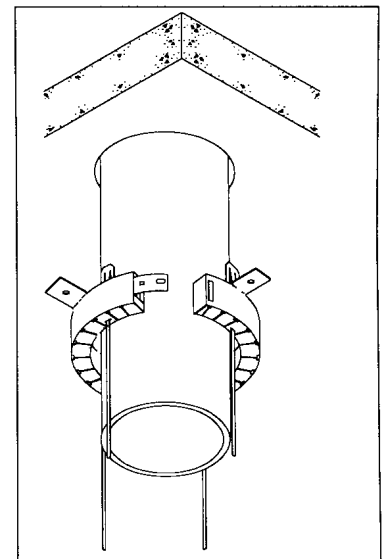

Figure 2: Open PPD and fit around pipe.
- B. Open the PPD and fit around the pipe. (Figure 2)